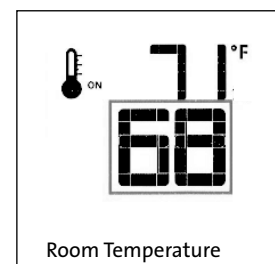

Fig. 15.12. Change Set Temperature.
- To adjust the Set Temperature, press the Up or Down Arrow Keys until the desired Set Temperature is displayed. Fig. 15.12.